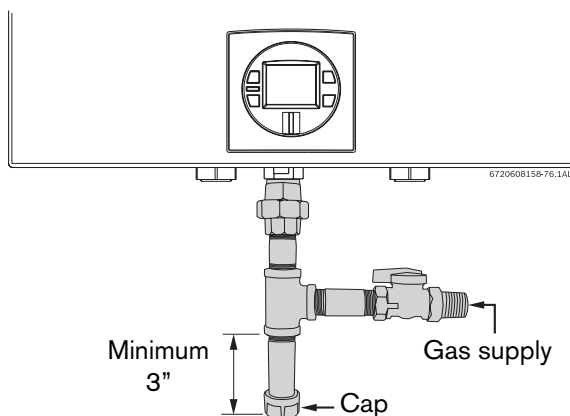

Fig. 11 Gas connection (drip leg)
- ▶ National Fuel Gas Code requires that a sediment trap (drip leg) be installed on gas appliances not so equipped. The drip leg must be accessible and not subject to freezing conditions. Install in accordance with the recommendations of the serving gas supplier, see Fig. 11.